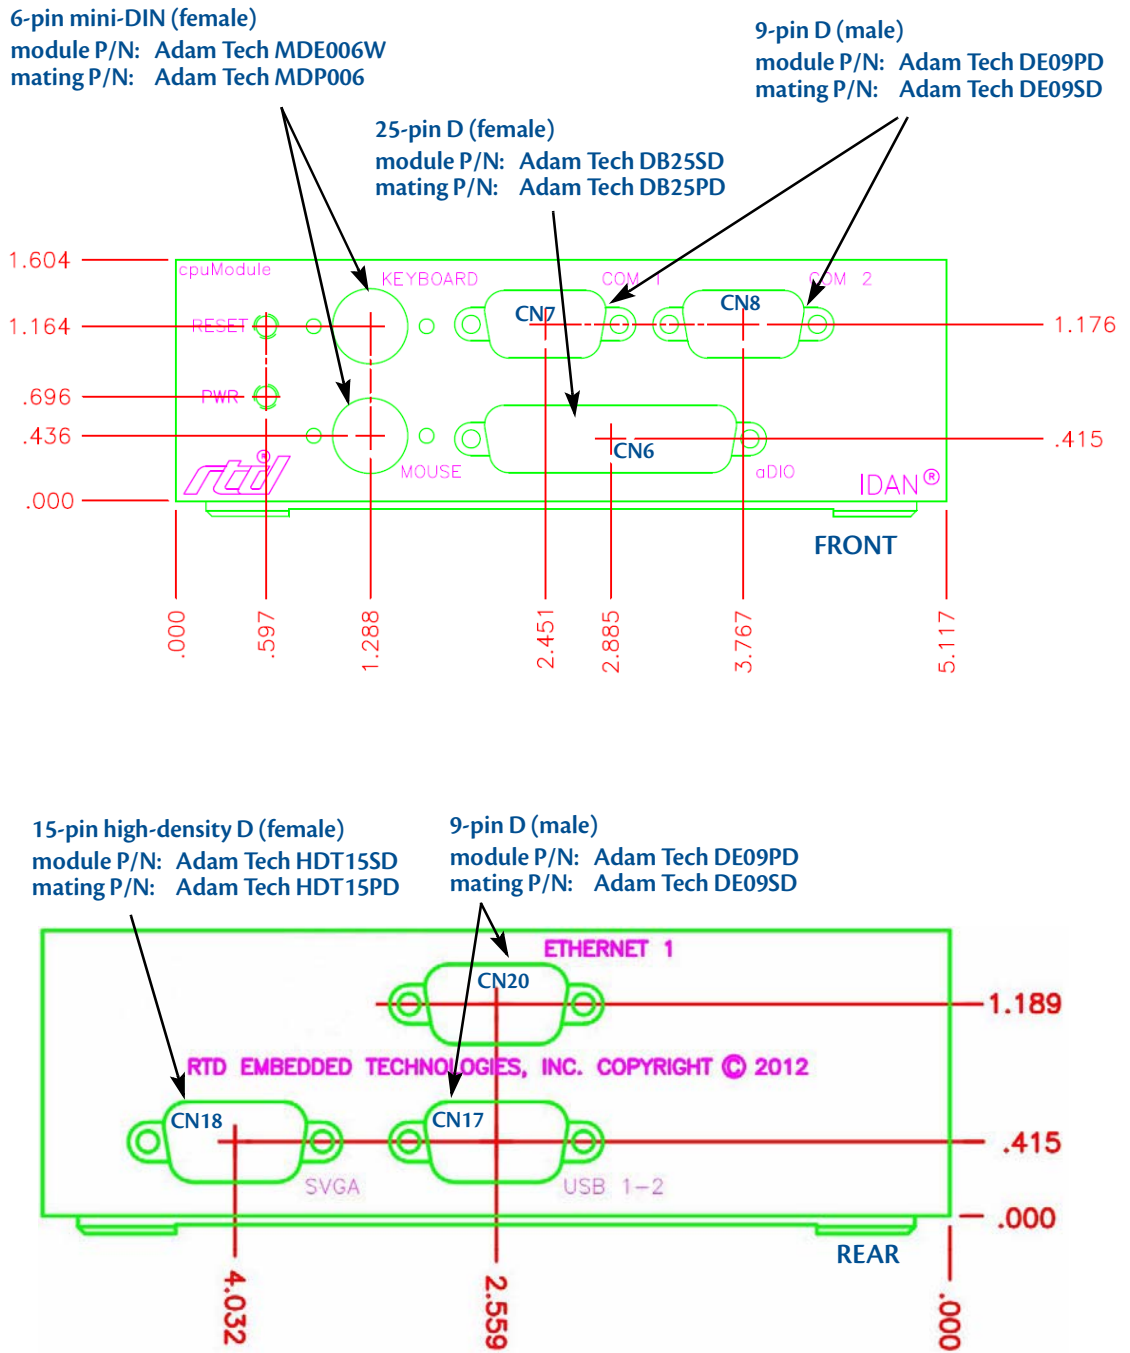

Figure 9 IDAN-CMV34M Connectors^{1,2}
1. Heatsink fins (not shown in Figure 9) extend 0.75 inches from the sides of the IDAN frame.